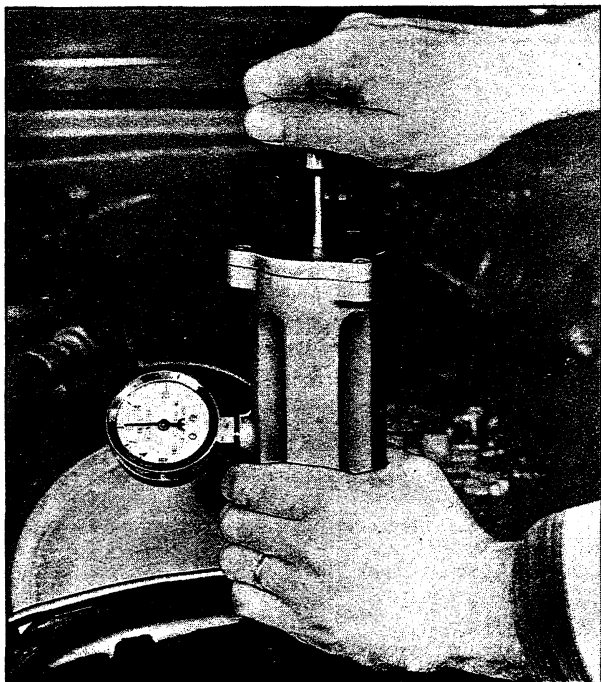

Fig. 18 - Cooling System Pressure Test
2. Apply a test pressure of 3 pounds higher than the radiator cap (fig. 18). i.e. 18 pounds for a 15 pound cap.